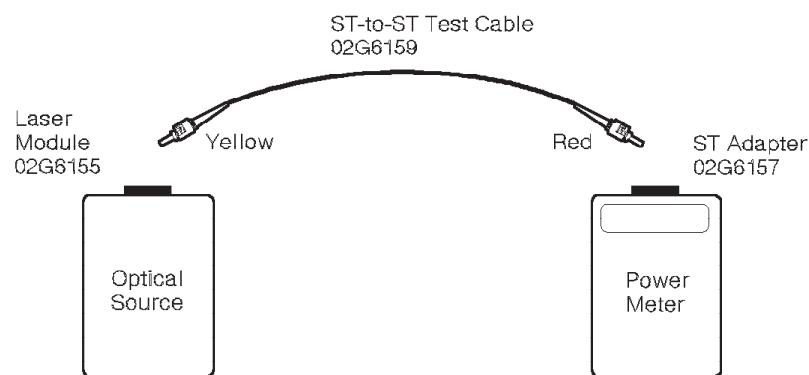

Figure 3-16. Obtaining **P0** for a Single-Mode Link
5. Attach the yellow-coded connector of an ST-to-ST test cable to the optical source; then attach the red-coded connector to the power meter (see Figure 3-16).